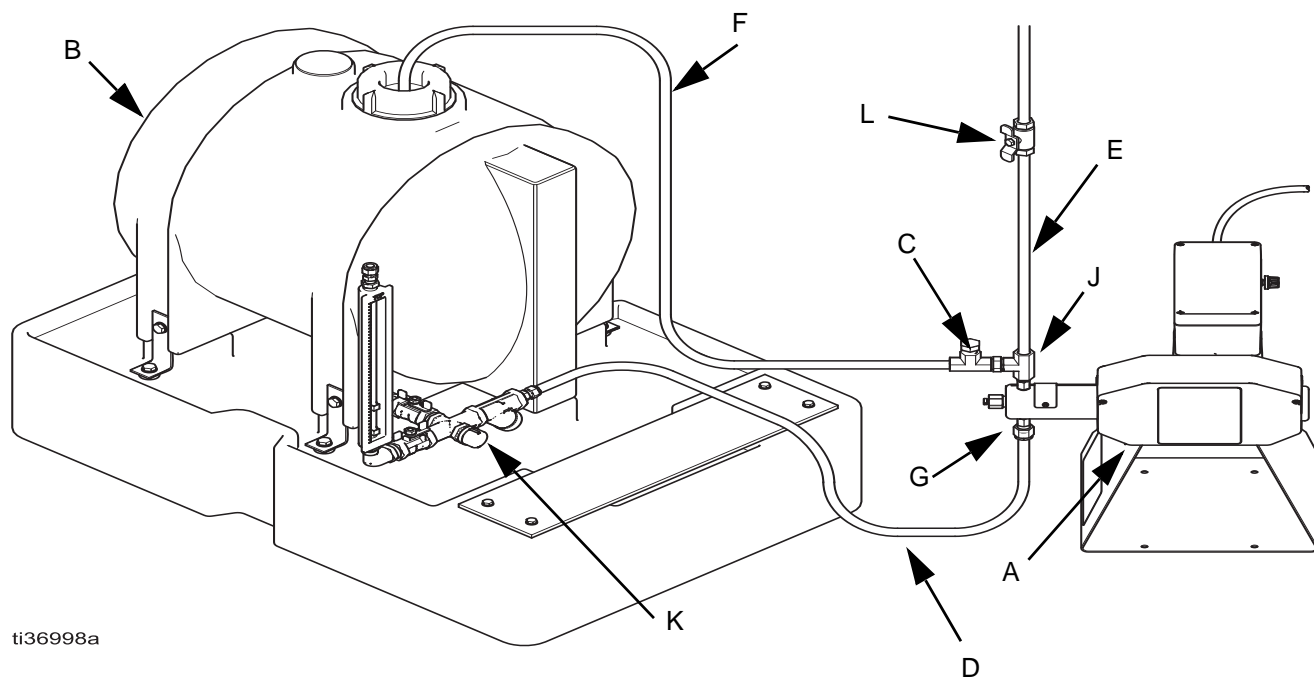

FIG. 6 Typical Installation in Hazardous Location
FIG. 6 is an example of an installation with a G-Chem chemical injection pump. Your installation may differ from what is shown here. (See **Accessories** on page 12.) The G-Chem pump (A) is the only component in FIG. 6 supplied by Graco. All other components are supplied by customer.